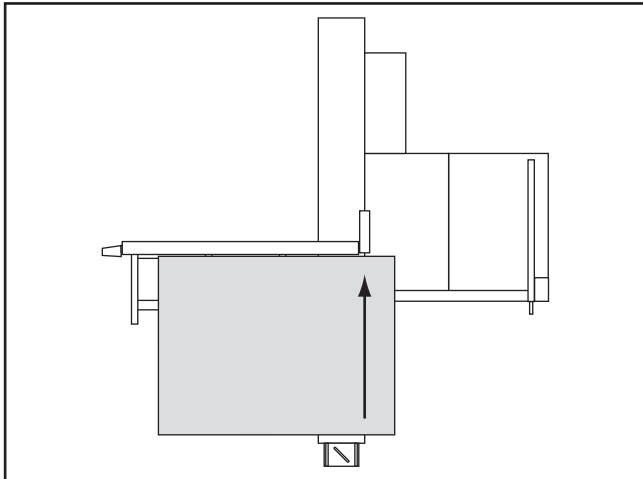

Figure 78. Example of full panel rip cutting.
The Model G0699 has the capability of rip cutting full-size panels, as shown in **Figure 78**. The sliding table saves time and increases accuracy by removing the burden of sliding a large and heavy panel over a stationary table surface.
8. Install the hold-down into the sliding table T-slot and use it to secure the workpiece to the sliding table. The set up should look similar to **Figure 78** on the previous page.